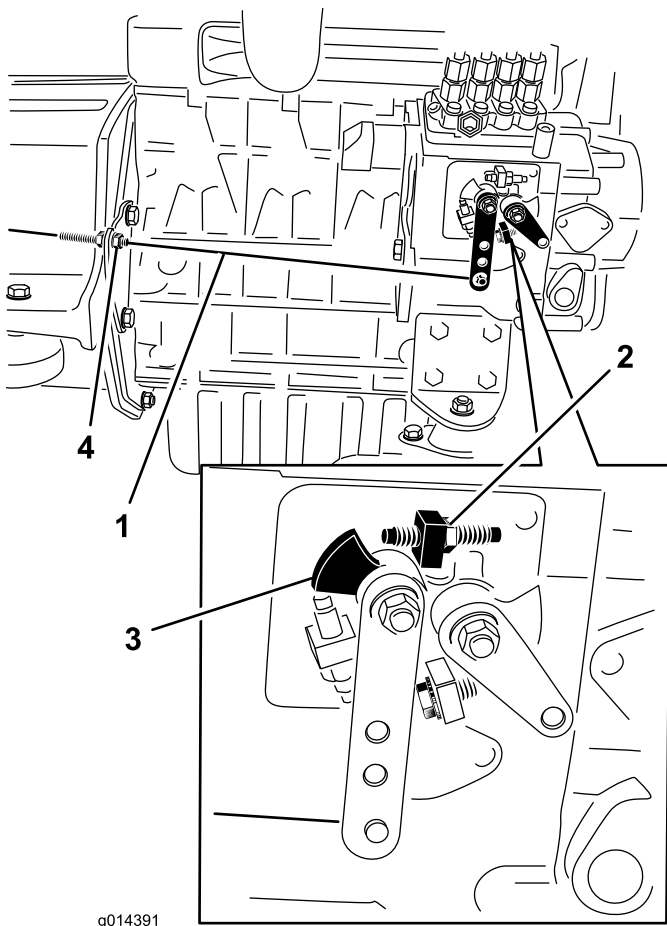

Figure 38
2. Check the position of the speed control lever on the engine fuel injection pump. The speed control lever should be contacting the high speed screw when the throttle control lever is in the FAST (detent) position (Figure 38).
3. If necessary, the position of the throttle control cable jam nuts can be adjusted until speed control lever contacts high speed screw when throttle control lever is at FAST (detent) position (Figure 38). **Do not adjust the high speed screw on the speed control lever.**